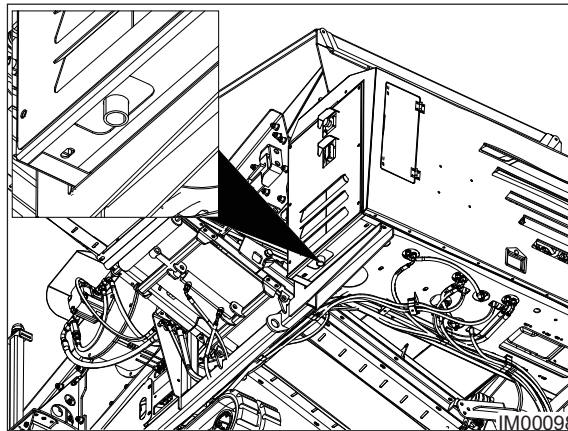

Fig: 11.37 - Oil Drain Plug
4. Place a suitable container (capable of holding 80 L / 21.1 US Gal) beneath the oil drain plug (Fig: 11.37).
7. Carefully remove the drain plug (Fig: 11.37) and allow the oil to drain to the container. Replace the drain plug seal.
10. Reinstall the drain plug (Fig: 11.37).